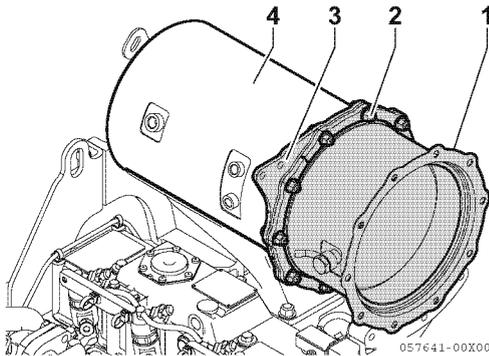

Figure 13-16
- Remove the M8 bolts and flange nuts (2, **Figure 13-16**) (8 or 10 of each) that fix the SF case (1, **Figure 13-16**) and DOC case (4, **Figure 13-16**).
- Remove the stiffeners (4 pcs.) (2 pcs. on each side) (3, **Figure 13-16**) that hold the mating surface of the SF case and DOC case flange, and remove the SF and SF case as a unit. Mark the stiffeners so that they can be reassembled in the original position.